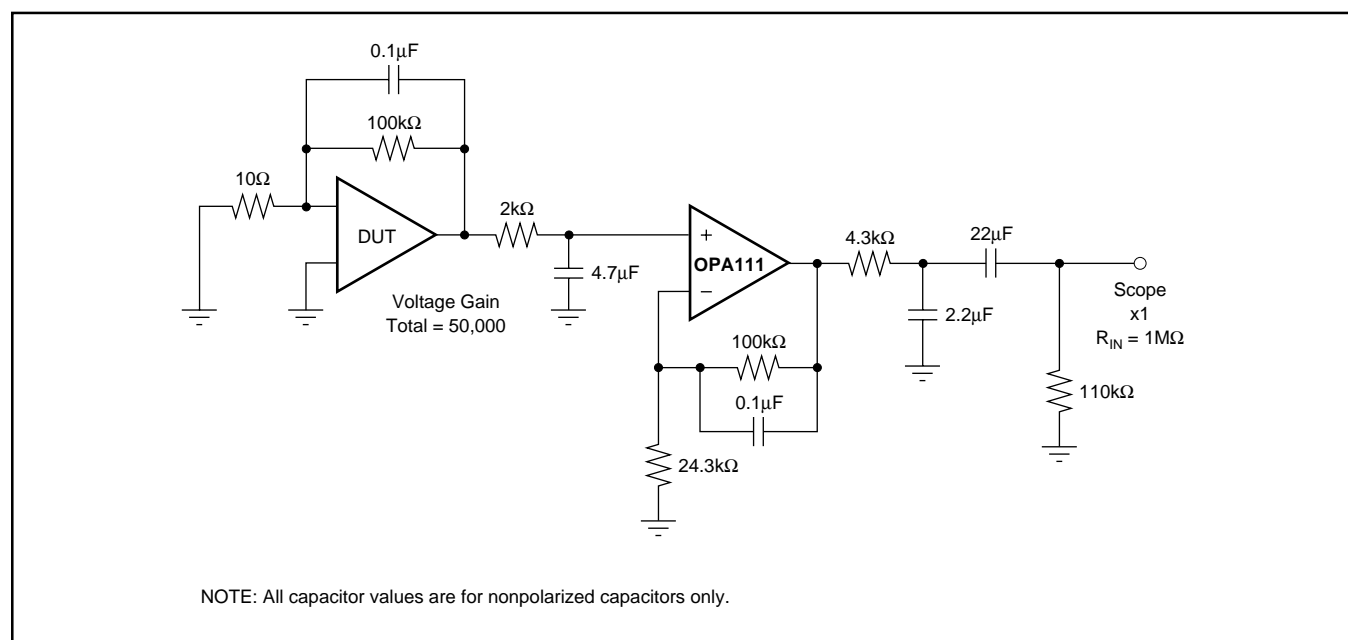

FIGURE 1. 0.1Hz to 10Hz Noise Test Circuit.
NOTES: (1) Measured with industry-standard noise test circuit (Figures 1 and 2). Due to errors introduced by this method, these current noise specifications should be used for comparison purposes only. (2) Offset voltage specification are measured with automatic test equipment after approximately 0.5 seconds from power turn-on. (3) Unnulled or nulled with  $8k\Omega$  to  $20k\Omega$  potentiometer. (4) Long-term voltage offset vs time trend line does not include warm-up drift. (5) Typical specification only on plastic package units. Slew rate varies on all units due to differing test methods. Minimum specification applies to open-loop test. (6) This parameter specified by design.